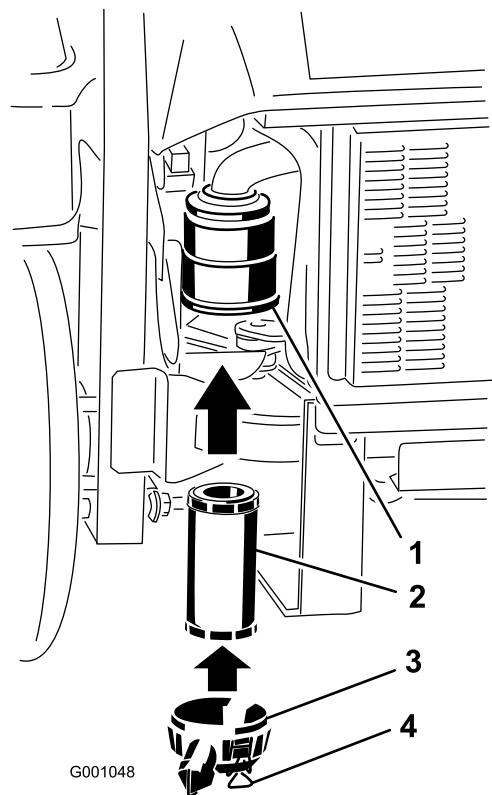

Figure 53
2. Carefully slide the filter into the filter body (Figure 53).
3. Install the air-cleaner cover and secure the latches (Figure 53).